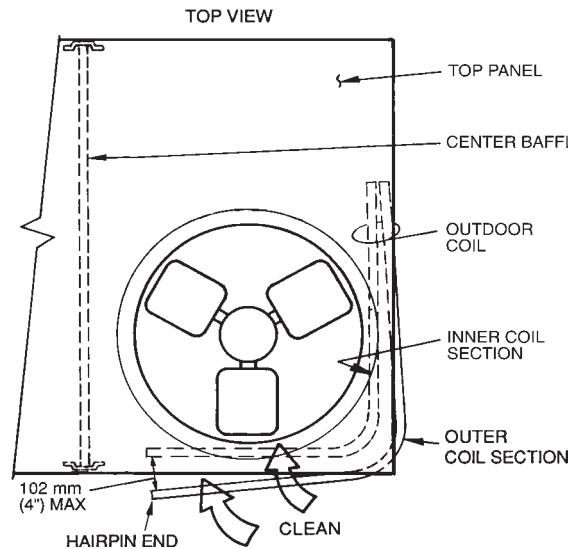

Fig. 47 — Separating Coil Sections
4. Remove the device holding the coil sections together at the return end of outdoor coil. Carefully separate the outer coil section 3 to 4 in. from the inner coil section. (See Fig. 47.)